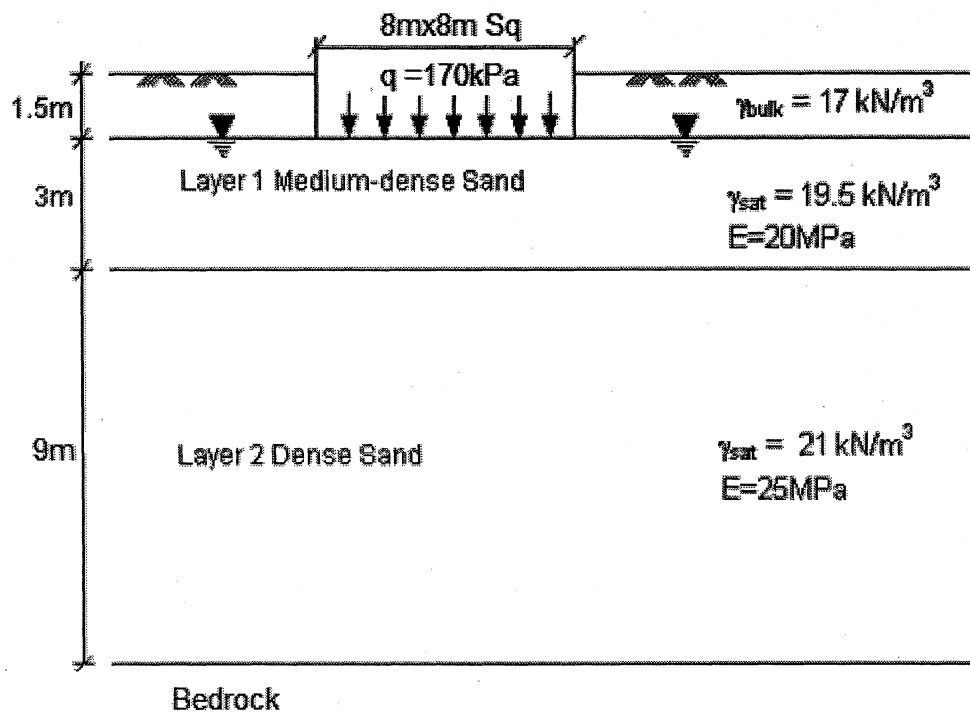

Figure 5
5. Figure 5 shows a raft foundation exerting a bearing stress of 170kPa.